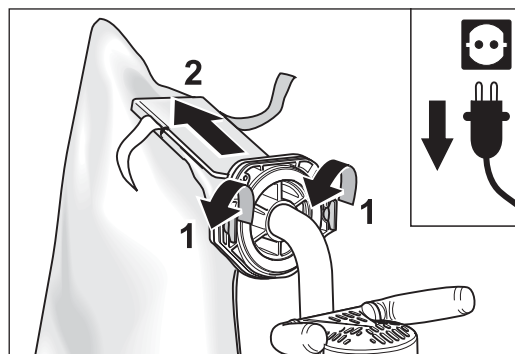

Fig. 23 Open both quick-release fasteners (1) and remove the dust bag (2).
- 5 Open the quick-release fasteners on the locating flange (fig. 23, 1).
- 6 Slowly pull the dust bag off of the locating flange (fig. 23, 2).